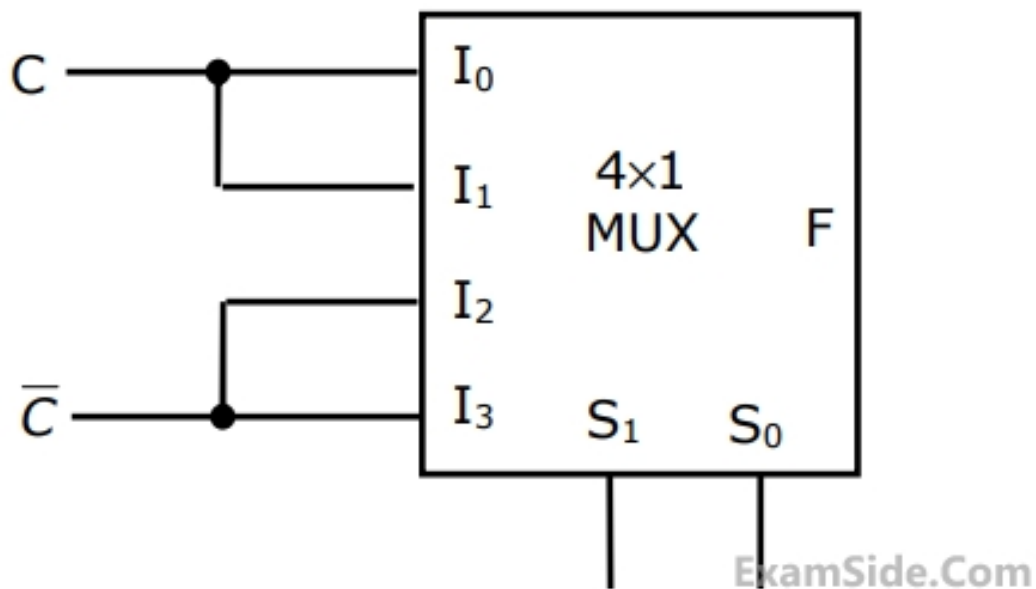

Figure 4.10:
16. Find the logic realized by the circuit in Fig. 4.10. (GATE EC 1992)